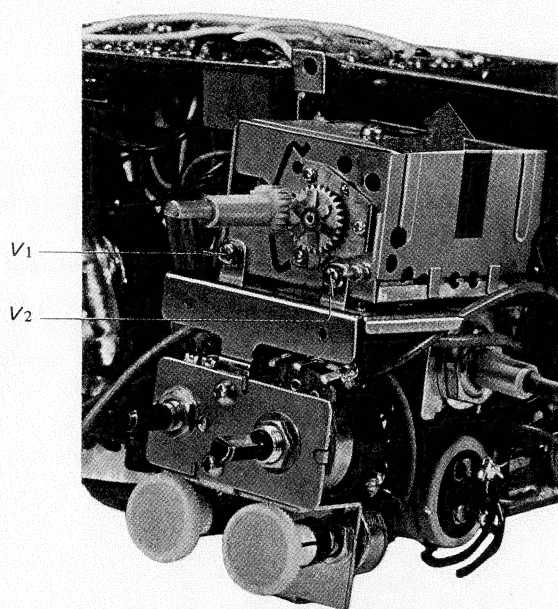

Fig. 2-25
3. Remove the two screws labeled V1 and V2 in Fig. 2-25.